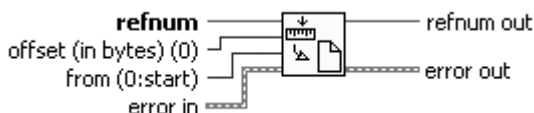
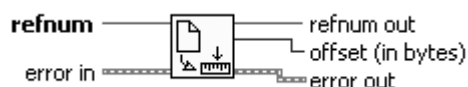

Figure 14.9
Figure 14.10
So, LabVIEW automatically adjusts the file marker as you write or read the file, but if you wish, you can also move the file marker explicitly to any value you like (so that read and write operations will occur in this new location), using the **Set File Position** function, shown in Figure 14.9. Use the **offset** input to define the marker position, and the **from** input to specify whether the offset value is relative to the *start of the file*, *end of the file*, or the *current file marker position*. Use the **Get File Position** function, shown in Figure 14.10, to get the current value of the file marker.
4. The key to being able to read at arbitrary points in the binary file is to use the **Set File Position** function (refer to Figure 14.9). You can use this function to set the file mark position. Keep in mind the file mark position must be figured in bytes, not "data points." So in our case, because our binary file is an array of DBL numbers, we have 8 bytes for each data point. If you want to set the file mark to data point position 100, you need to set the file mark at 800 bytes.